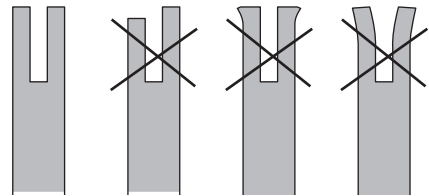

Fig. 16
4. Check the guide bar 'rail' for wear: Hold a ruler (straight edge) against the side of the guide bar and 'cutter side plates'. If there is a gap between the ruler and guide bar the guide bar 'rail' is normal. If there is no gap (ruler flush against the side of the guide bar) the guide bar 'rail' is worn and needs to be replaced with a new one of the same type (Fig. 16).
6. Refit the ssw chain (4) and the guide bar (5) as described under “Assembly”.